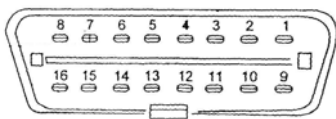

Fig.4-16
2. Read DTC (diagnosis trouble code) (FIG.4-16)